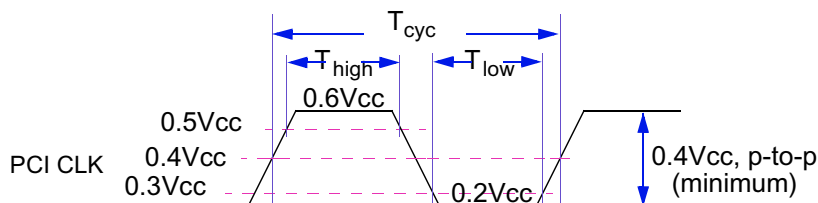

Figure 9 PCI CLK Waveform
The MPC5200 is always the source of the PCI CLK. The clock waveform must be delivered to each 33-MHz or 66-MHz PCI component in the system. Figure 9 shows the clock waveform and required measurement points for 3.3 V signaling environments. Table 22 summarizes the clock specifications.
2. Rise and fall times are specified in terms of the edge rate measured in V/ns. This slew rate must be met across the minimum peak-to-peak portion of the clock waveform as shown in Figure 9.